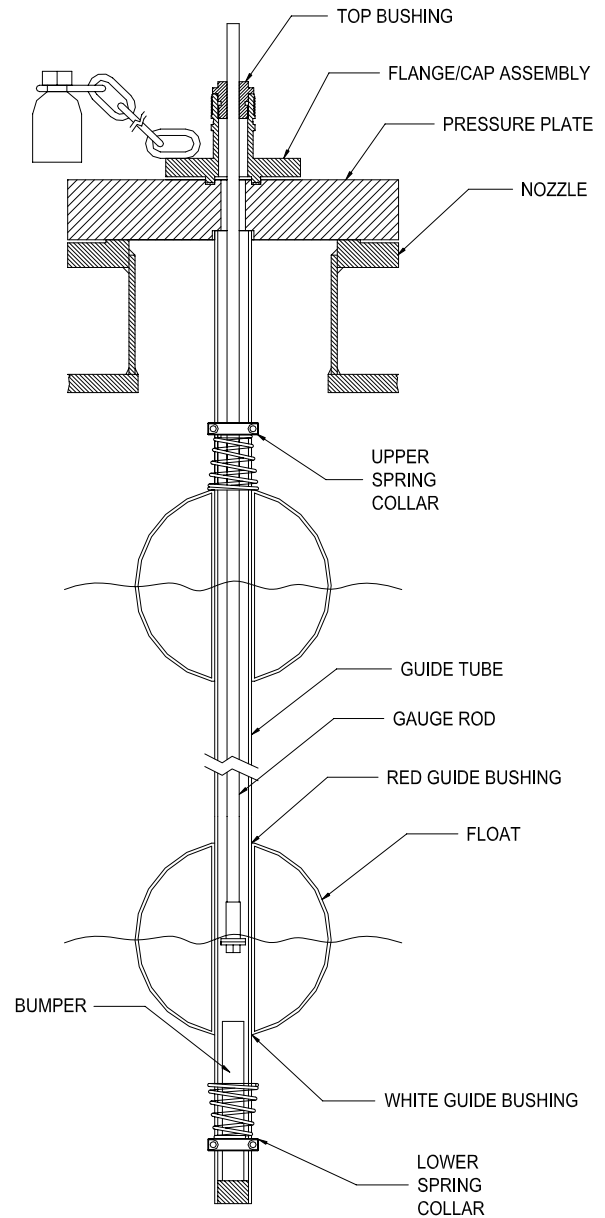

FIGURE 1
4. Install the upper spring collar with the spring facing down (see Figure 1). Next, install the float on the guide tube. The float has Teflon guide bushings, which are the interface between the float and the guide tube. One bushing is red and the other bushing is white. The float must be installed on the guide tube with the red bushing pointing toward the pressure plate, and the white bushing pointing toward the bottom of the tank. The end of the float with the red bushing is also etched with the letters "TOP." Once the float is installed on the guide tube, it must be protected at all times from heat and weld splatter. Always slide the float on the guide tube away from the area being welded. Install the lower spring collar with the spring facing up (see Figure 1).